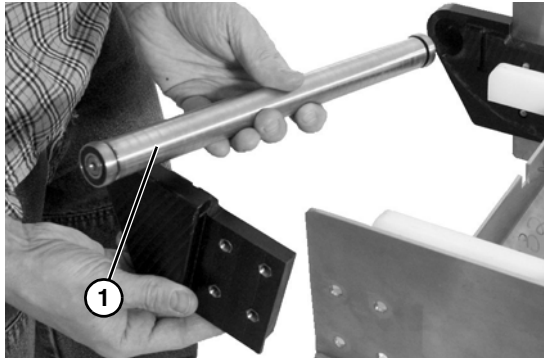

Figure 42
- Slide off idler roller bearing assembly (Figure 42, item 1).